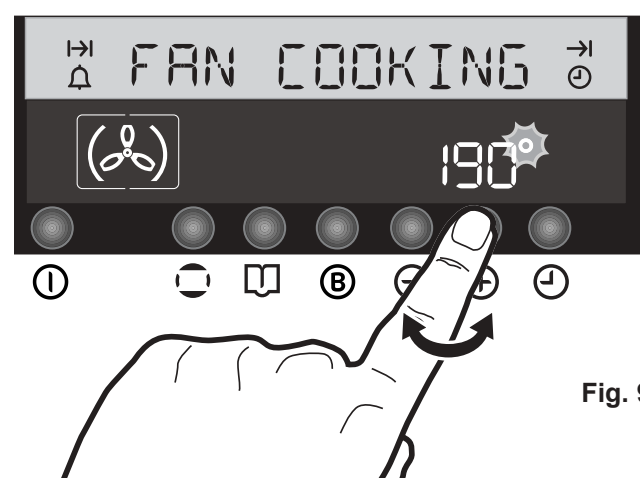

Fig. 9
3. Symbol "●" flashing means that it is possible to adjust the pre-set temperature by pressing button  or  (Fig. 9). Temperature level is adjusted in 5 degree steps. Please note that symbol "●" will flash for 5 seconds.